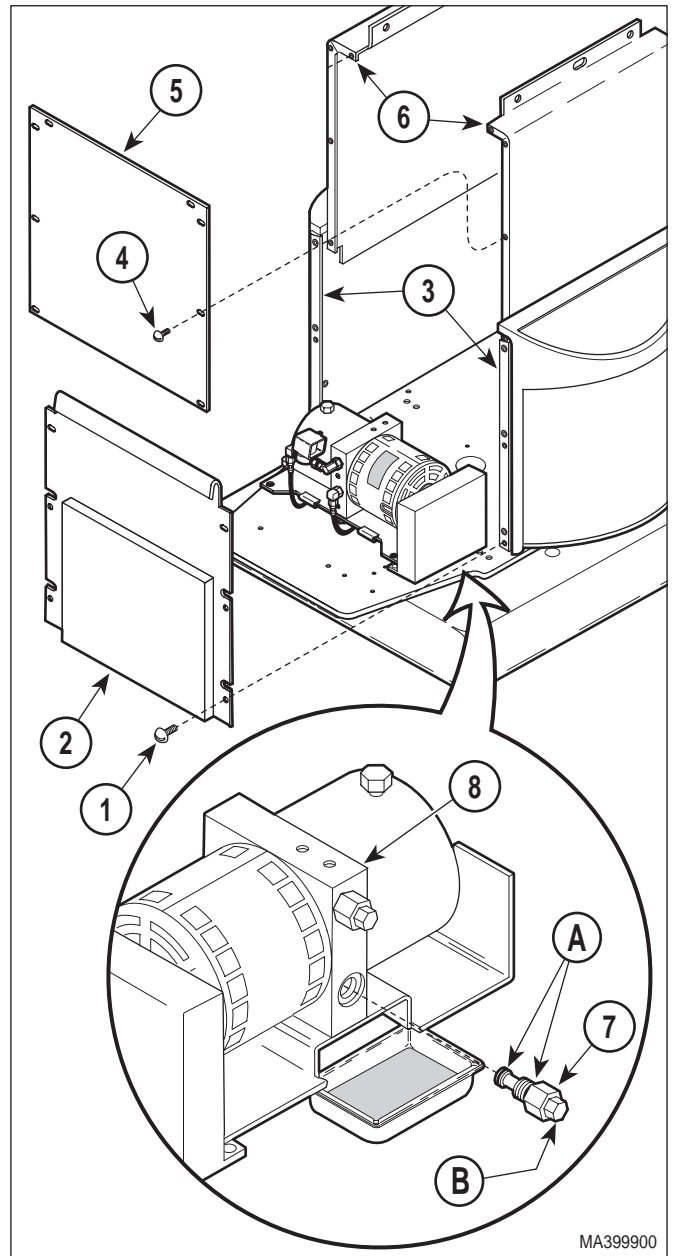

Figure 4-6. Up Functions Relief Valve Removal / Installation
- (1) If possible, raise BASE UP function all the way up.
- (2) Unplug table power cord from outlet.
- (3) Remove motor cover assembly (Refer to para 4.2).
- (4) Remove four screws (1, Figure 4-6) and back outer shroud (2) from left and right hand outer shrouds (3).